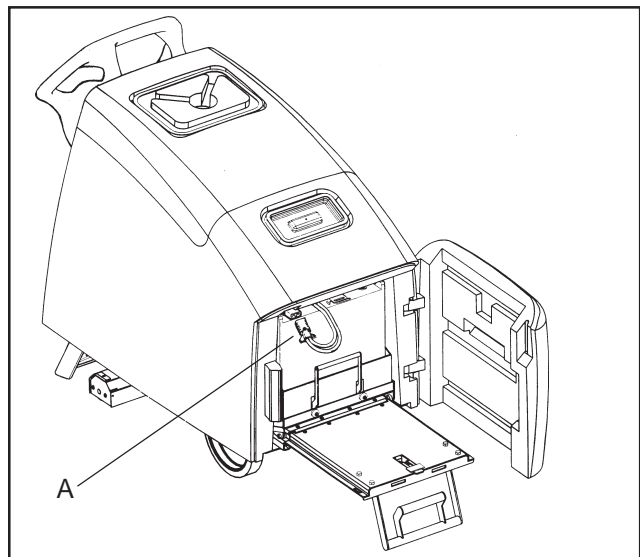

Figure 11
5. Join the connector from the battery pack to the connector on the front of the machine. Raise and latch front bridge and close front cover. See figure 11, A.